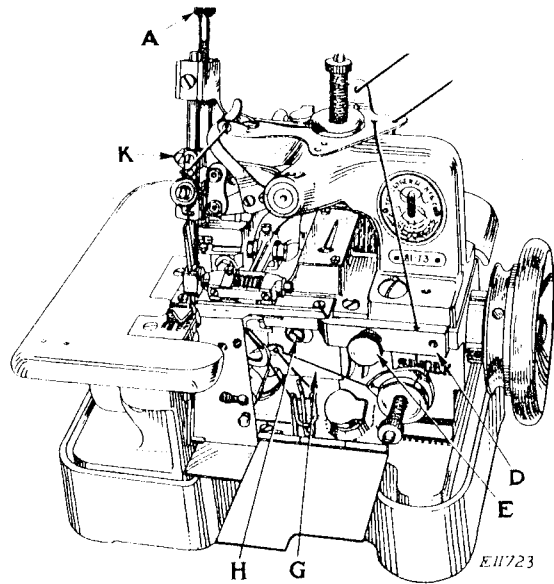
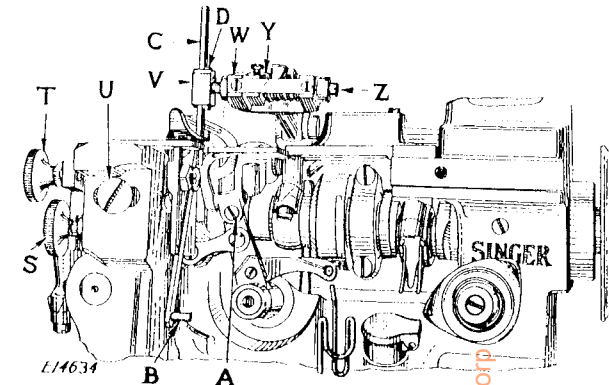

FIG. 13. ADJUSTMENTS ON THE MACHINE
FIG. 16. ADJUSTMENTS ON THE MACHINE
The pressure on the material is regulated by means of the thumb screw (A, Fig. 13). To increase the pressure, turn this thumb screw downwardly. To decrease the pressure, turn the thumb screw upwardly.
The length of stitch is regulated by means of the adjusting screw (H, Fig. 13) in the feed eccentric. **This screw faces directly outward.**
To change the length of stitch, turn the balance wheel until the lock screw in the feed eccentric appears in the hole of the cover (G, Fig. 13). **This screw faces slightly downward.** Loosen the lock screw. Then turn the balance wheel until the adjusting screw (H) is visible through the hole in the cover (G). Turn the adjusting screw (H) over to the right for a long stitch. Turn this screw over to the left for a short stitch. Then turn the balance wheel over until the lock screw appears and securely tighten this screw.
Now turn the balance wheel over from you until the needle bar has risen $\frac{3}{8}$ inch from its lowest position. The point of the left hand looper, on its loop taking stroke, should then be at the center of the needle, and the eye of the needle should be about $\frac{1}{16}$ inch below the looper point. If the needle bar is not at the correct height, loosen the pinch screw (K, Fig. 13) and move the needle bar upward or downward as required, then securely tighten the pinch screw (K).
The left hand looper should be set in the looper carrier by means of the screw (A, Fig. 16), so that the point of the looper on its loop-taking stroke passes as close as possible to the needle without striking it. The point of the right hand looper or spreader should pass at the recess back of the left hand looper eye as close as possible without touching it.
The lower knife (B, Fig. 16) should always be fastened in position when removing or replacing the upper knife. The lower knife is adjustable to the right or left and its position governs the position of the upper one, also the width of bite on the goods.
To Remove the Lower Knife (B, Fig. 16) loosen the thumb screw (T, Fig. 16) and draw the knife downwardly.
To Replace the Lower Knife, have the presser foot and feed down, press the upper knife holder (V, Fig. 16) toward the balance wheel, and push the lower knife upwardly so as to touch the presser foot without lifting it, then tighten the thumb screw (T, Fig. 16).
To Adjust the Trimmer Sidewise, loosen the thumb screw (E, Fig. 13) and move the extension bracket (D, Fig. 13) to the right or away from the upper knife, loosen the screw (U, Fig. 16) and turn the thumb screw (S, Fig. 16) inwardly or outwardly until the trimmer is in the desired position, then securely tighten the screw (U). Move the extension bracket (D, Fig. 13) back toward the upper knife, leaving just enough clearance between the upper knife and the bracket so as to allow free movement of the upper knife, then tighten the thumb screw (E, Fig. 13).
To Remove the Upper Knife (C, Fig. 16), loosen the screw (Z, Fig. 16) at the end of the knife holder, press the knife holder (V, Fig. 16) toward the balance wheel and remove the knife.
When replacing the Upper Knife, have the knife holder in the lowest position and pressed toward the balance wheel, insert the knife and set it so that its cutting edge is just below the cutting edge of the lower knife, then tighten the clamping screw (Z, Fig. 16).
If the desired trimming margin cannot be secured by these adjustments, it may be obtained by removing the gib (D, Fig. 16) and replacing it at the **left** of the upper knife. The lower knife should then be adjusted accordingly.
When the knives are in contact, the space between the guide (Y, Fig. 16) and the knife lever (W, Fig. 16) should be about $\frac{1}{2}$ inch.